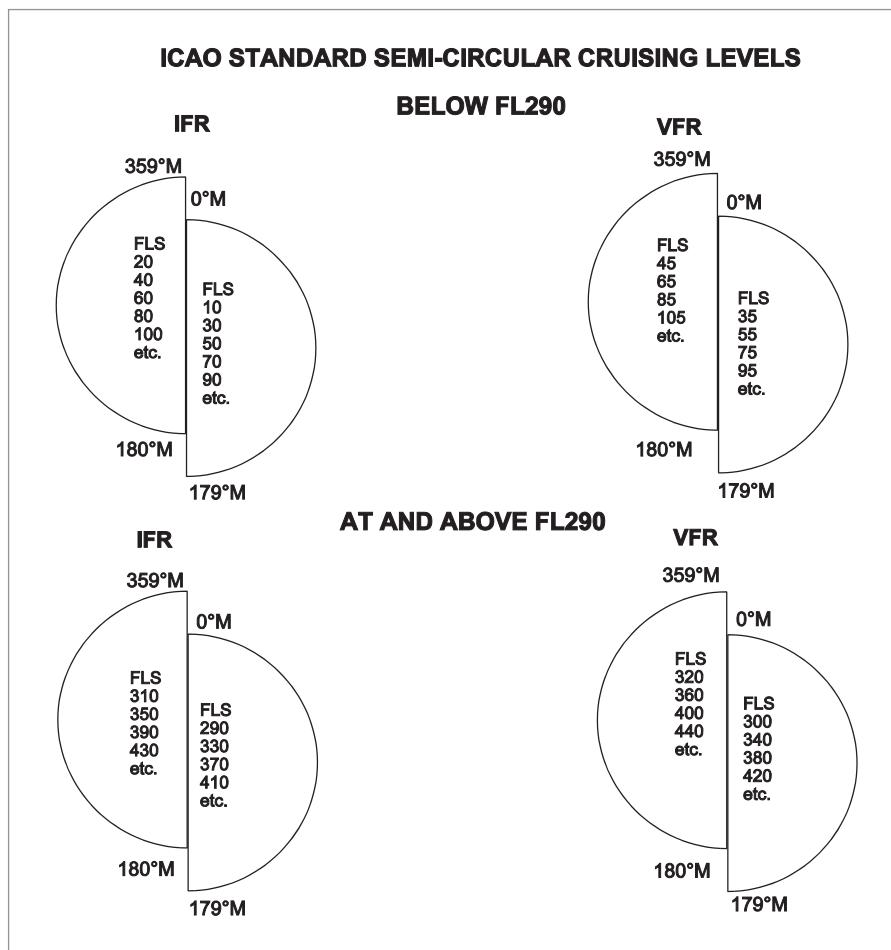

Figure 9.1 ICAO semi-circular cruising levels
- The ICAO Standard Semi-circular Cruising Levels. (See Figure 9.1)
(See *Figure 9.1* and bottom of the chart)
The choice of safe Flight Level is determined by the aircraft's planned **Magnetic track** (not heading), stated obstacle clearance allowance and regional forecast route QNH. For VFR flight for SEP and MEP aircraft the **BELOW FL290 VFR** diagram, top right of *Figure 9.1*, is the reference. Flight Levels for a track between 0°M and 179°M are **odd levels plus 500 ft**; for tracks between 180°M and 359°M they are **even levels plus 500 ft**.